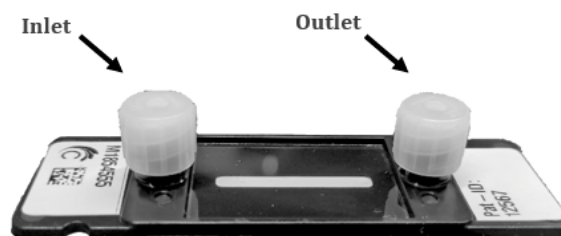

Fig. 3 | CellScape™ chip with sealing plugs blocking the inlet and outlet
- d. Remove the sealing plug from the inlet of the chip (Figure 3) while leaving the outlet plug sealed.